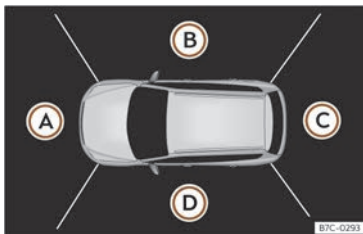

Fig. 138 Display of the Area View system: aerial view.
There are four different views to choose from >>> **Fig. 138:**
The aerial view is generated by combining the images from all the cameras >>> **Fig. 138**. The top view can be selected by pressing the vehicle inside the zone.
Press on the different areas >>> **Fig. 138** (A) to (D) of the top view or reduced top view to select and set the corresponding view, which will be highlighted in orange.
The infotainment system's screen shows the top view $\gg \gg$ Fig. 138. If you press the button when driving above 15 km/h (9 mph), the image will not be displayed.